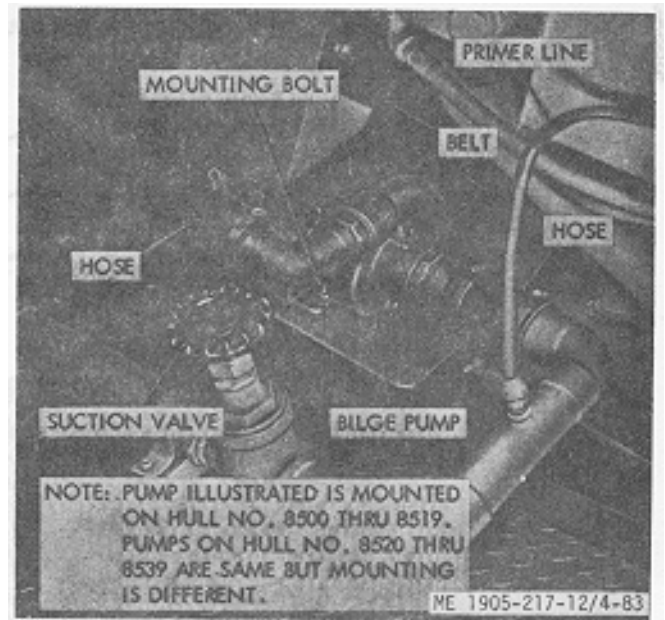

Figure 4-83. Bilge pump removal
pump is belt-driven from the inboard engine of the starboard propulsion unit. See figure 4-83. See figure 3-12 for bilge pump installation on hull numbers 8540 thru 8560 and 8580 thru 8618. These pumps have a single moving part, the impeller and shaft assembly. Only one grease cup requires attention. See lubrication order. The grease cup provides lubrication for the bronze bushing on impeller end of shaft. Ball bearing at other end of shaft is grease-pack and requires no attention.
c. *Pump Removal (fig. 4-83).*
- (1) Close primer line valve and suction valve.
- (2) Loosen hose clamps and slide hoses away from pump.
- (3) Loosen mounting bolt nuts and remove belt.
- (4) Remove mounting bolts and remove pump.